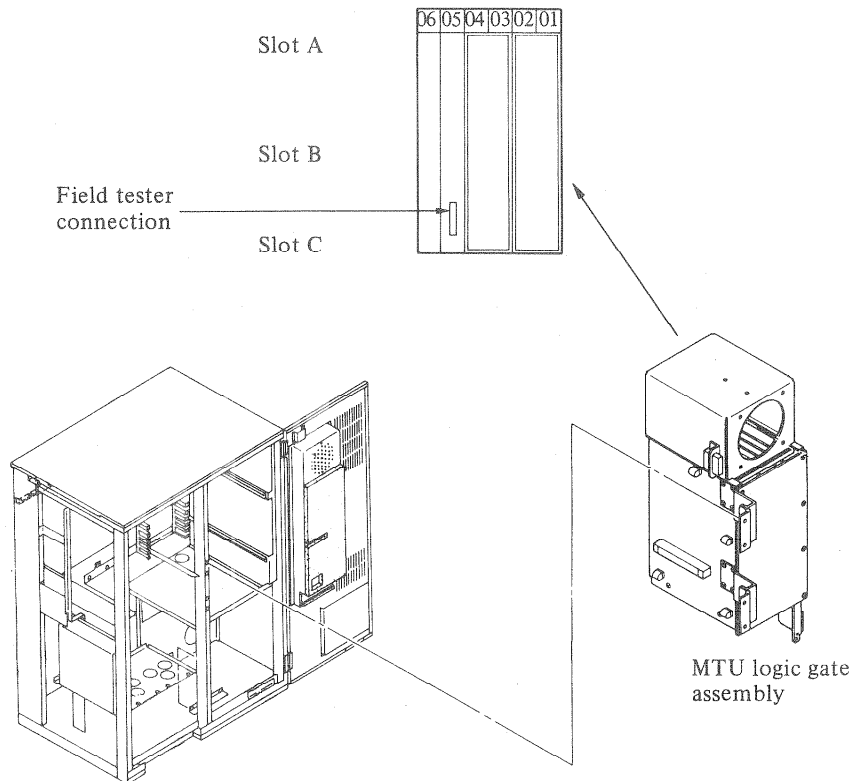

Figure 5.1 Field tester connection to 1C05 on MTU logic gate
- (1) Set the MTC front panel POWER ON switch(es) to OFF.
- (2) Connect the field tester (B13B-0110-B101A) to slot 1C05 on the MTU logic gate assembly (see Figure 5.1).
- (3) Set the MTC front panel POWER ON switch(es) to ON.